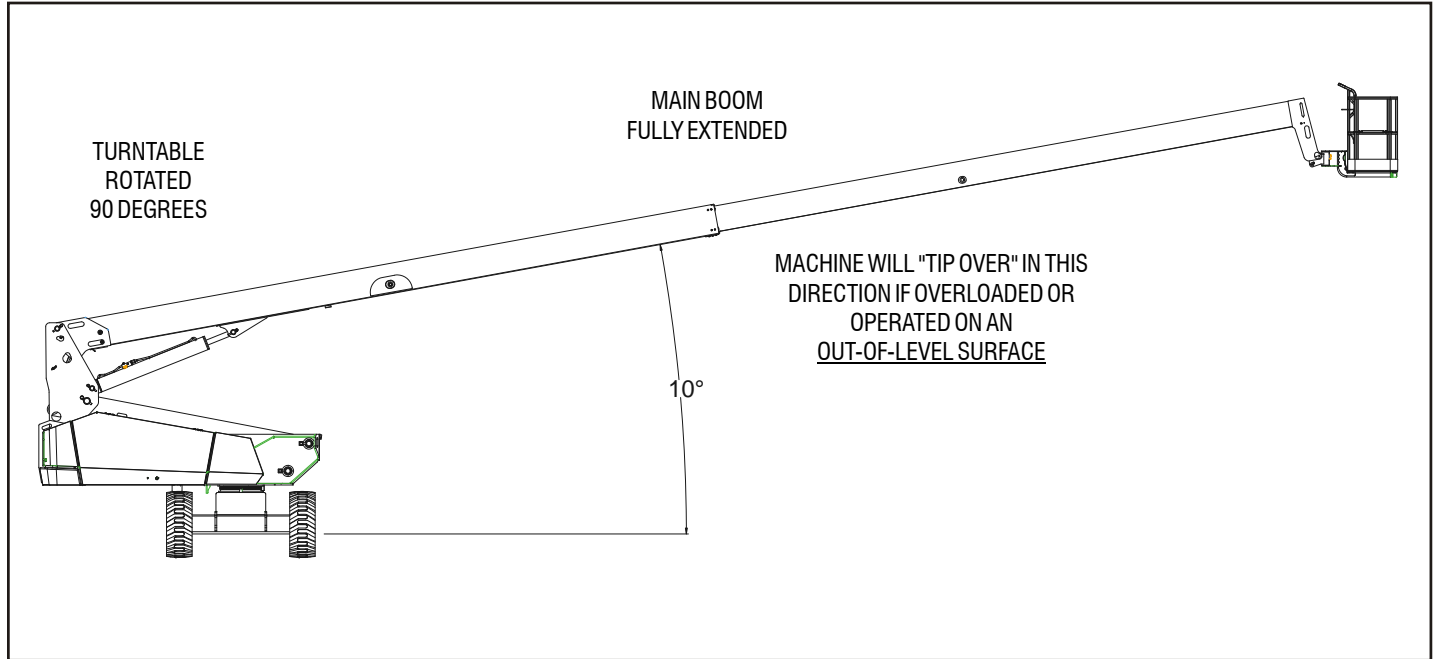

Figure 4-1. Position of Least Forward Stability
Machine stability is based on two (2) conditions which are called Forward and Backward stability. The machine's position of least Forward stability is shown in Figure 4-1., and its position of least Backward stability is shown in Figure 4-2.